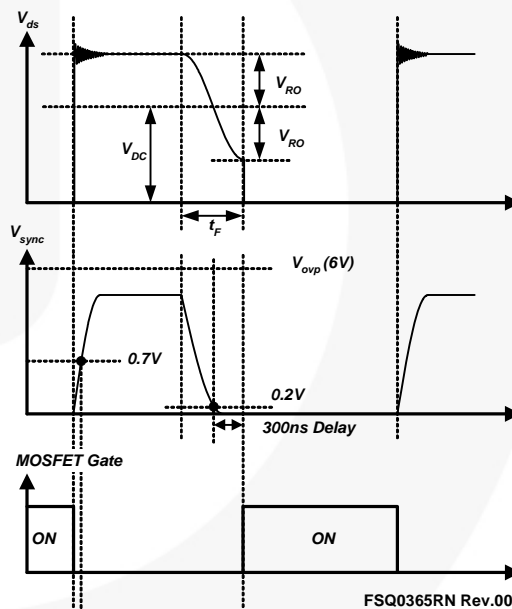

Figure 22. Valley Resonant Switching Waveforms
3. Synchronization: The FSQ-series employs a valley switching technique to minimize the switching noise and loss. The basic waveforms of the valley switching converter are shown in Figure 22. To minimize the MOSFET's switching loss, the MOSFET should be turned on when the drain voltage reaches its minimum value, as shown in Figure 22. The minimum drain voltage is indirectly detected by monitoring the V_{CC} winding voltage, as shown in Figure 22.